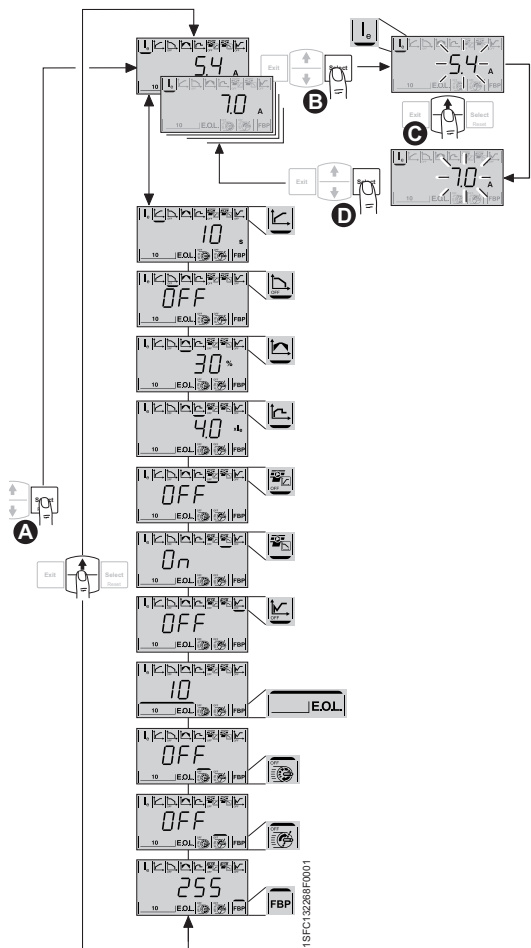

Figure 2.3:
10. Continue to configure parameter  $I_R$  as described in figure 2.3. Complete information about configuration is available in Chapter 6 Human-Machine Interface (HMI) and Chapter 7 Functions and configuration.